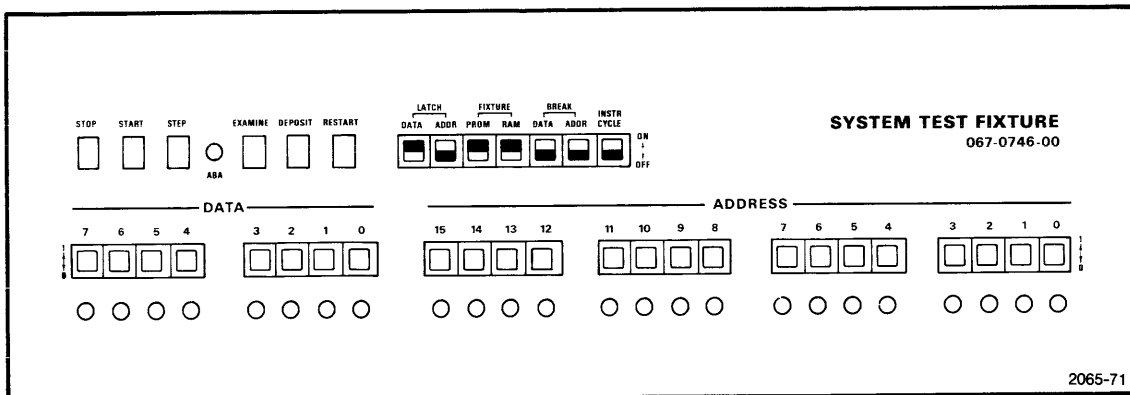

Fig. 5-23.
4. Set the seven control switches to the positions indicated in Fig. 5-23.